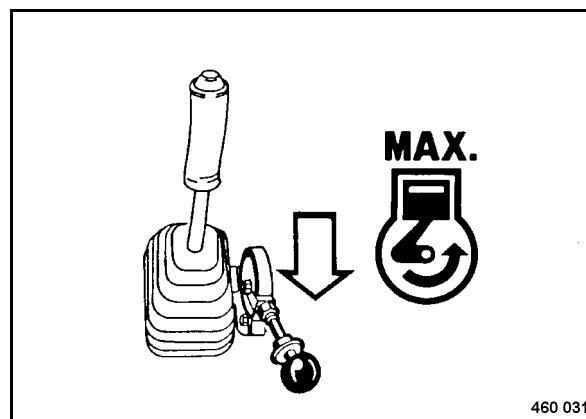

Fig. 43
- Shift the throttle lever (Fig. 43) to position "MAX" and lock it.